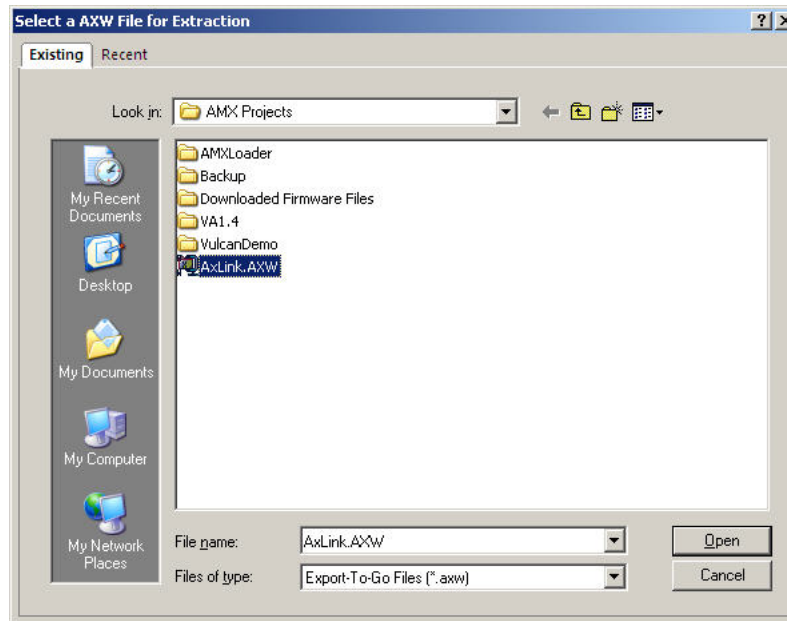

FIG. 278 Select a AXW File For Extraction dialog (NetLinx Studio)
9. Select **Project > Import From Exported AXW File** to access the *Select a AXW File For Extraction* dialog (FIG. 278):